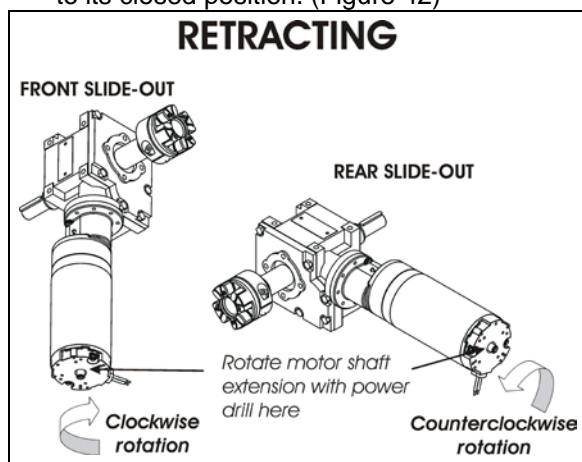

FIGURE 42: SLIDE-OUT MOTOR ROTATION
5. Rotate the slide-out motor shaft extension with the power drill until the slide-out comes to its closed position. (Figure 42)